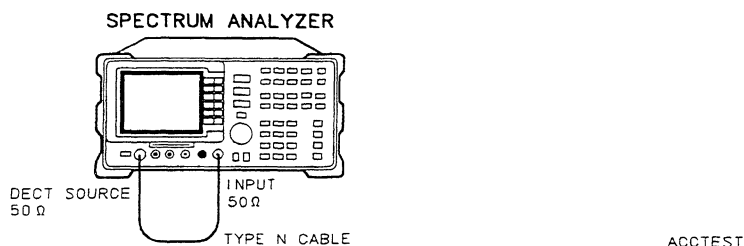

Figure 9-11. Frequency Accuracy Test Setup
1. Connect the 23 cm BNC cable between the DECT SOURCE 50 Ω and INPUT 50 Ω connectors on the spectrum analyzer, using the N(m) to BNC(f) adapters. Refer to Figure 9-11.